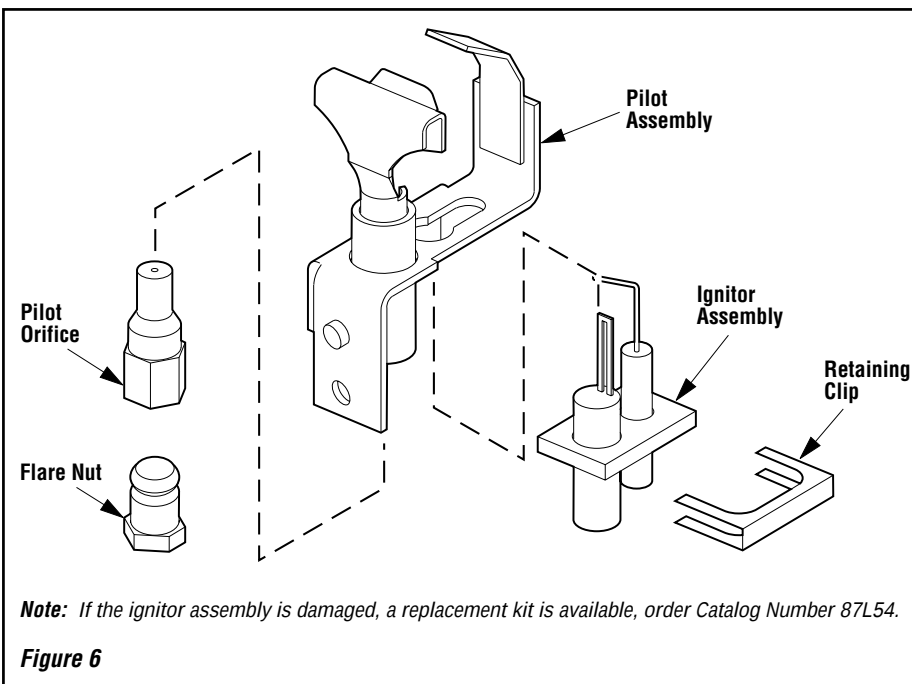

Figure 6
Step 8. Refer to **Figure 6** and replace the pilot orifice as follows: Remove the ignitor assembly retainer clip, and carefully remove the ignitor assembly. **Exercise extreme care to prevent damage to or breakage of the ignitor assembly.** Remove the screw securing the pilot assembly to its mounting bracket. Back off the flare nut at the end of the pilot gas line to free the pilot assembly from the gas line.
Step 12. Refer to **Figure 6** and replace the pilot orifice as follows: Remove the ignitor assembly retainer clip, and carefully remove the ignitor assembly. **Exercise extreme care to prevent damage to or breakage of the ignitor assembly.** Remove the screw securing the pilot assembly to its mounting bracket. Back off the flare nut at the end of the pilot gas line to free the pilot assembly from the gas line.